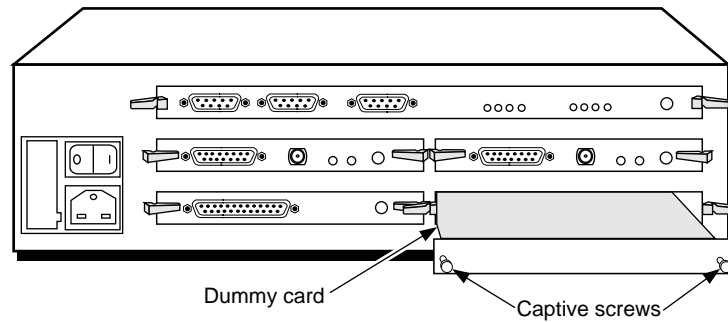

Figure 2-2 Removing a Blanking Plate
- 7 Using a flathead screwdriver (if necessary), remove the blanking plate from the selected I/O slot for the HSS RS-449 module (see Figure 2-2).